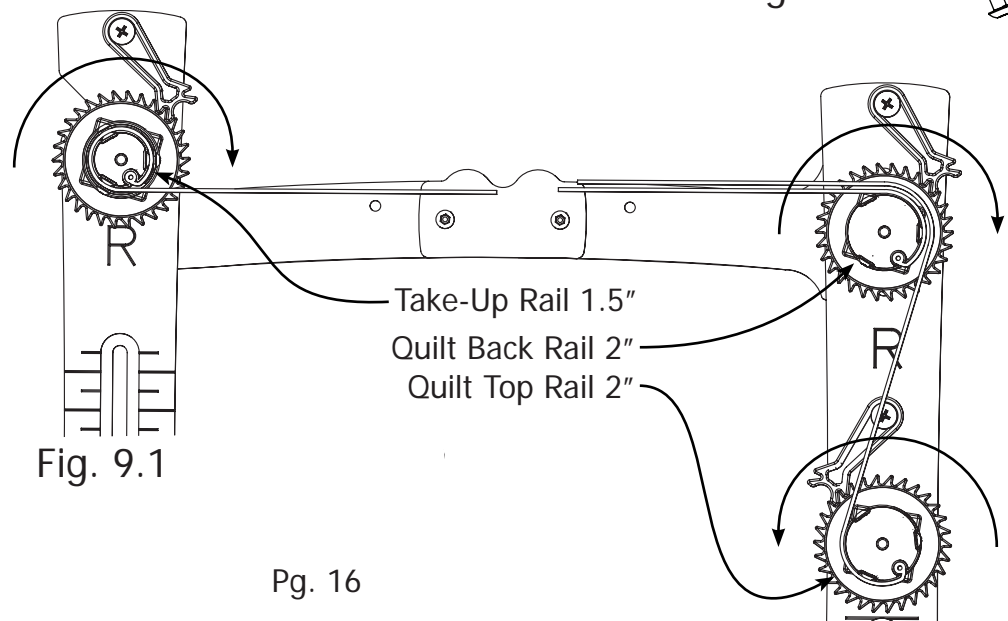

Fig. 9.1
Step 9.1: (Quilt Back - 2 inch Rail) Place a Ratchet Wheel onto the Square End Cap located on the end of one of the 2" rails. Make sure to have the ratchet wheel arranged as shown in Fig. 9.1 (Quilt Back). This rail will ratchet clockwise when adjusting fabric tension.
Step 9.4: (Quilt Top - 2 inch Rail) Place a Ratchet Wheel onto the Square End Cap on a 2" Rail. Make sure to have the Ratchet Wheel arranged as shown in Fig. 9.1 (Quilt top). This Rail will ratchet counter-clockwise.
Step 9.7: (Take-Up Rail) Place the remaining Ratchet Wheel onto the Square End Cap on the 1.5" Rail. Make sure to have the Ratchet Wheel arranged as shown in Fig. 9.1 (Take-Up Rail). This Rail will ratchet clockwise.
Step 9.10: Attach Ratchet Stops to the Right End Rail Brackets using (BB) M6 x 40mm Truss Bolts, as shown in fig. 9.10, also use Fig. 9.1 as a reference. (Finger tighten only)